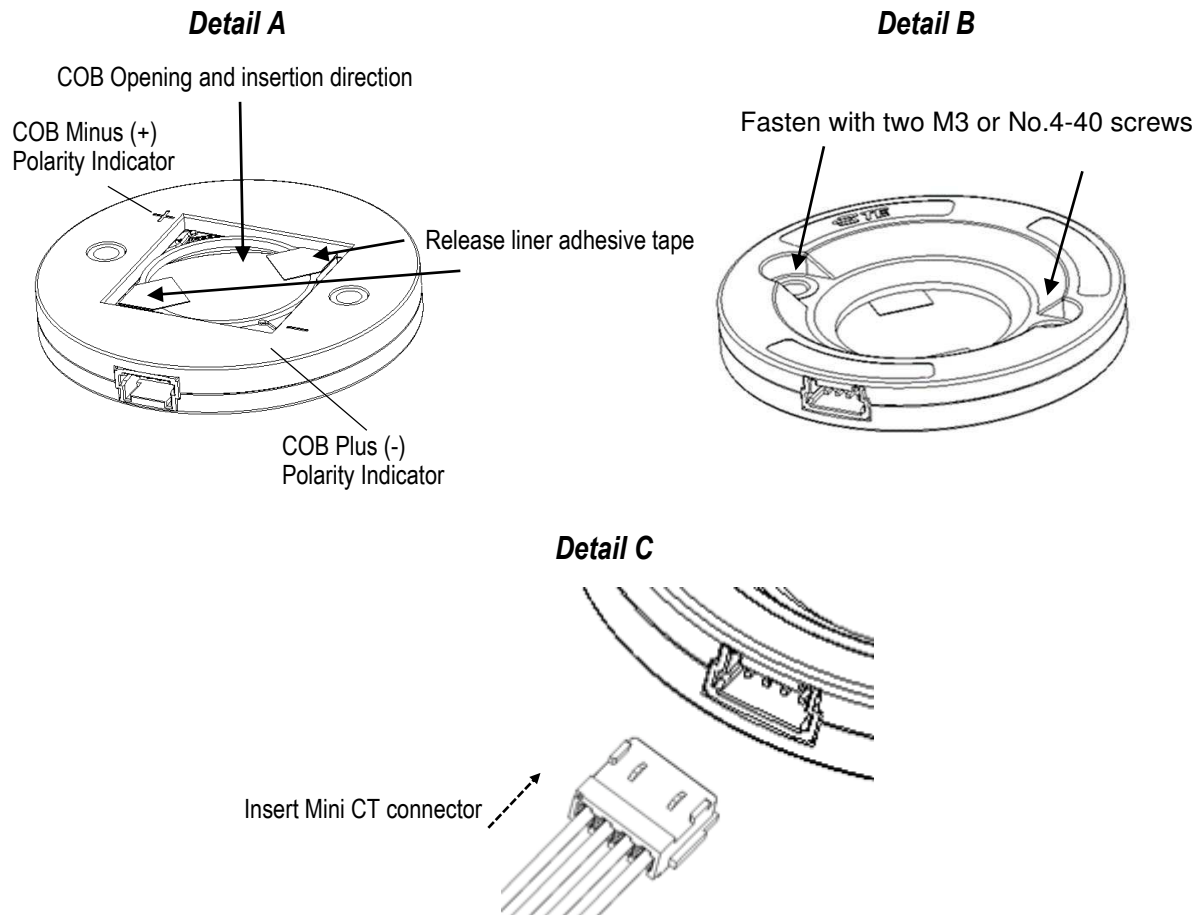

Figure 7
2. Remove release liner of adhesive tape, insert the COB and ensure you do not press the light emitting (yellow part) part of the COB. The LED polarity indicator must be observed when orienting the COB into the COB opening. Light pressure need to be applied to the bottom of the COB to overcome the resistance of the crush ribs, which ensures centralization of the COB in the LUMAWISE Drive. The COB will stay in place thanks to the adhesive tape. See Figure 7, details A.
3. The LUMAWISE Drive (bottom side) must be placed on the cooling device with TIM material recommended phase change style or grease in between, so that the screws holes align over the holes in the cooling device. The LUMAWISE Drive must be secured to the cooling device using two customer-supplied M3 or No. 4-40 with minimum length of 12 mm mounting screws. Each mounting screw should be tightened to a torque between 0.4 Nm and 0.6 Nm [3.45 and 5.31 in.-lb]. See Figure 7, detail B.
4. Insert the Mini CT connector into the socket before energizing, please ensure the keying is in the correct position. See Figure 7, detail C.